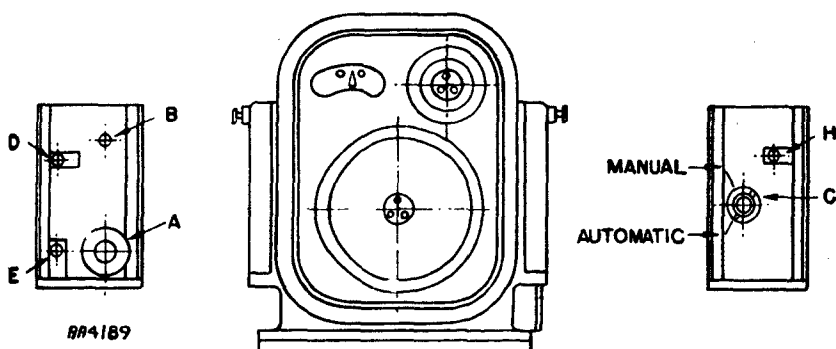

FIGURE 14.—Indicator regulator.
(A) (fig. 14) until mechanical (outer) pointer reads azimuth given orally by GC; checks lagmeter to see that it is in ZERO position; if necessary, removes cover cap under sliding cover and turns slotted shaft (B) (fig. 14) until lagmeter is zeroed (a small screw cover must be removed before this adjustment can be made); checks collimation of azimuth direct-fire sight.
2 elevates gun until G calls, "Hold"; raises sliding cover on left side of elevation indicator; turns toothed wheel (A) (fig. 14) until mechanical (outer) pointer reads 800 mils elevation; checks lagmeter to see that it is in the ZERO position—if necessary, removes cover cap under sliding cover (on left side of indicator regulator) and turns slotted shaft (B) (fig. 14) until lagmeter is zeroed (a small screw cover must be removed before this adjustment can be made); checks collimation of elevation direct-fire sight.
2 raises sliding cover on right side of elevation indicator; after power has been turned on, slowly turns selector switch to MANUAL; operates the gun manually until value of quadrant elevation received orally from GC is indicated by mechanical (outer) pointer of the elevation indicator; raises sliding cover on left side of elevation indicator and turns slotted shaft (E) (fig. 14) until electrical (inner) pointer matches mechanical (outer) pointer; sets selector switch at AUTOMATIC; directs 7 to turn on motor switch at gun junction box.
- 7 raises sliding cover on right side of azimuth indicator; after power has been turned on, *slowly* turns selector switch to **MANUAL**; operates the gun manually until value of angle of train received orally from GC is indicated by mechanical (outer) pointer of azimuth indicator; raises sliding cover on left side of azimuth indicator and turns slotted shaft (**E**) (fig. 14) until electrical (inner) pointer matches mechanical (outer) pointer; sets selector switch at **AUTOMATIC**; turns on motor switch at gun junction box when directed by 2.
- 2 if lagmeter is not at zero position, turns slotted shaft (**D**) (fig. 14) until lagmeter is at zero position; disengages the handwheel by pushing it toward the muzzle and depresses the transfer valve plunger.
- 7 if, after power is turned on at gun junction box lagmeter is not at zero position, turns slotted shaft (**D**) (fig. 14) until lagmeter is at zero position; disengages the handwheel by pushing it toward the muzzle, and depresses the transfer valve plunger.